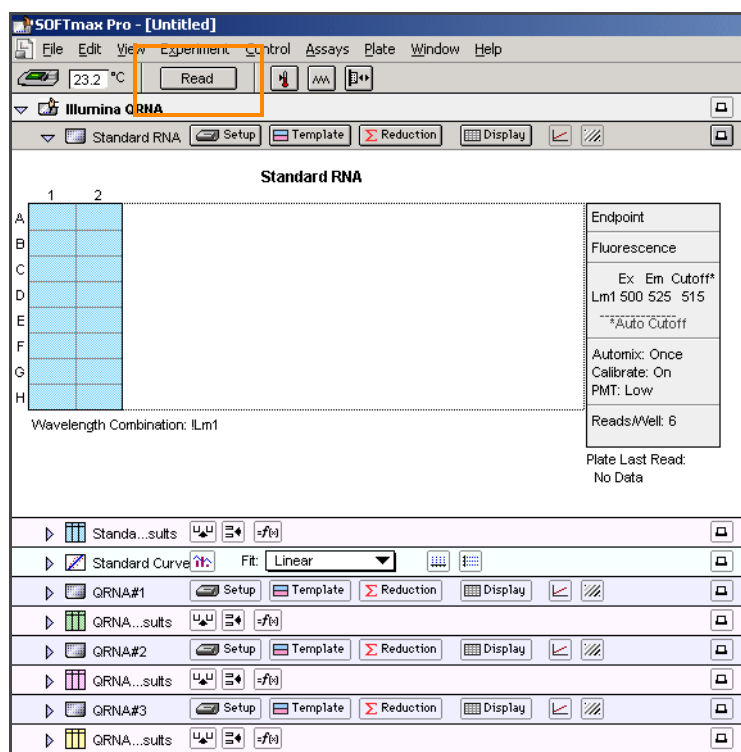

Figure 16 Read the Standard QRNA Plate
- Click **Read** in the SoftMax Pro interface (Figure 16) to begin reading the Standard QRNA Plate.